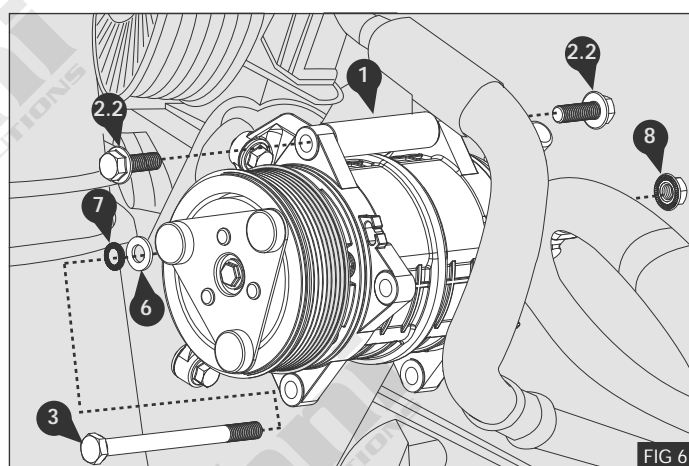

FIG 6
2. Fit the compressor to the compressor mount bracket **1** using bolts **2.2**, bolt **3** with spring washer **7**, flat washer **6** and nut **8** - Fig.6